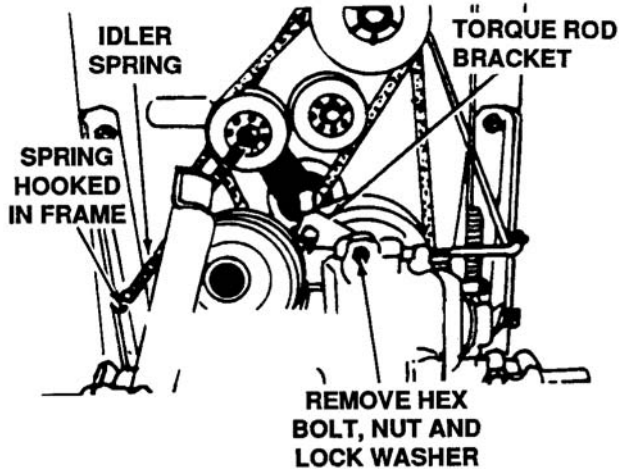

Figure 4-19. Torque Rod Bracket and Transaxle
4. Unhook the idler spring from the rider frame. See Figure 4-19.